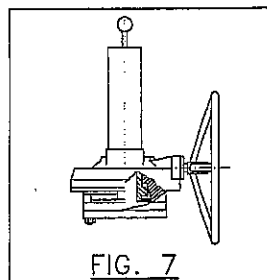

FIG. 7
- *Figure 7* ► it represents a valve with a position gauge.